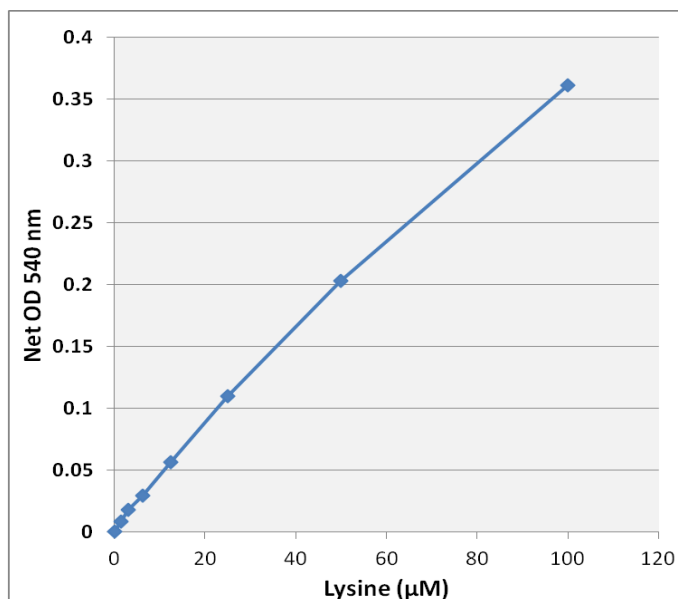

Figure 2: Lysine Standard Curve.
3. Graph the standard curve (see Figure 2).